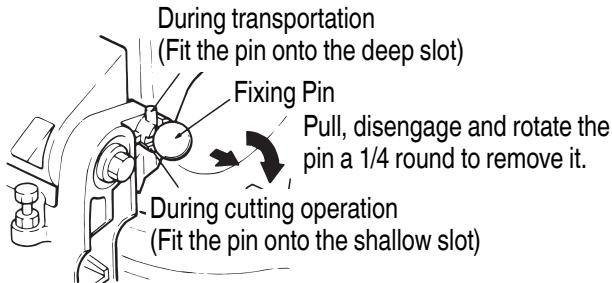

Fig. 1
4. When the tool is shipped, its movable parts are fixed by the fixing pin. Move the handle a little and remove the pin by pulling it as illustrated in **Fig. 1**.